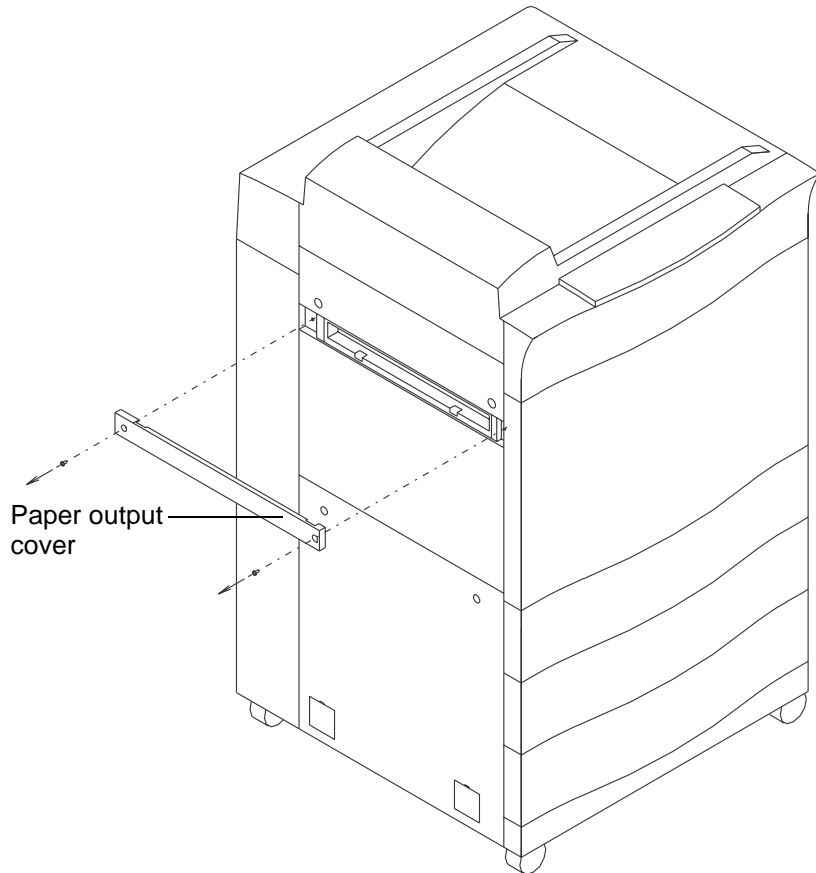

Figure 9 Removing the paper output cover
- Step 1 Unscrew and remove the paper output cover from the printer. See Figure 9.